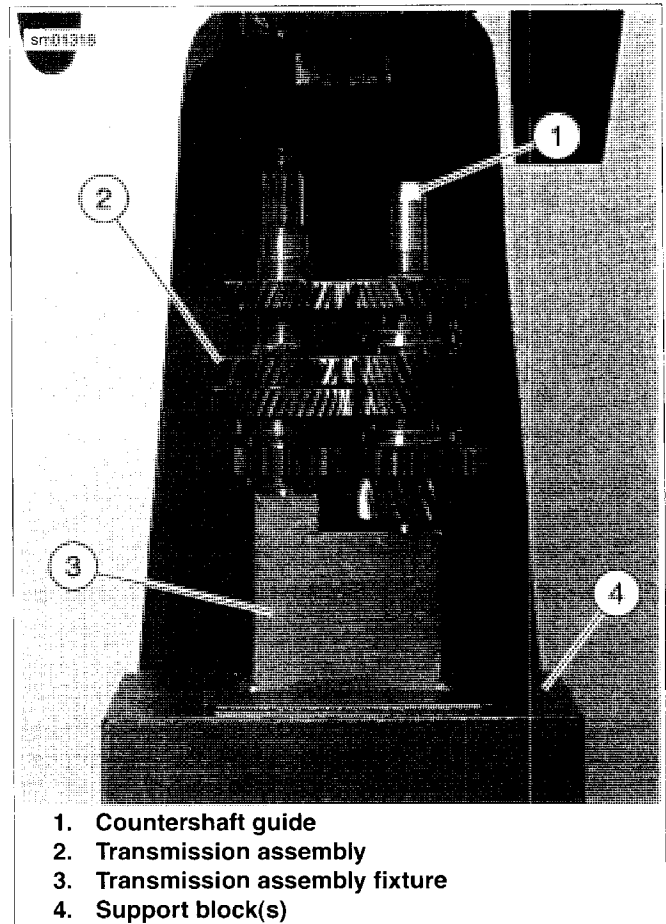

Figure 5-95. Transmission Assembly on Fixture
2. See Figure 5-95. Place transmission assembly (2) onto TRANSMISSION ASSEMBLY FIXTURE (Part No. HD-46285) (3) on press bed. Use support block(s) (4) if necessary.
4. Screw COUNTERSHAFT GUIDE (Part No. B-43985-4) (1) into end of countershaft.